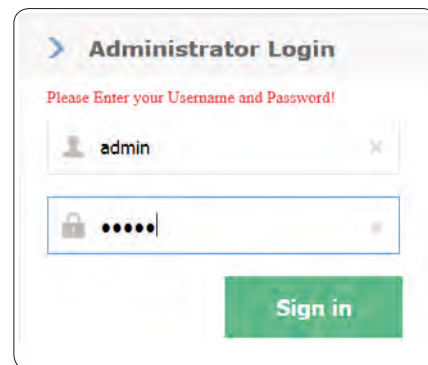

Fig. 3: Login dialogue
3. When the login dialogue shows up, enter the default user name (admin) and password (admin); see Fig. 3.¹⁾